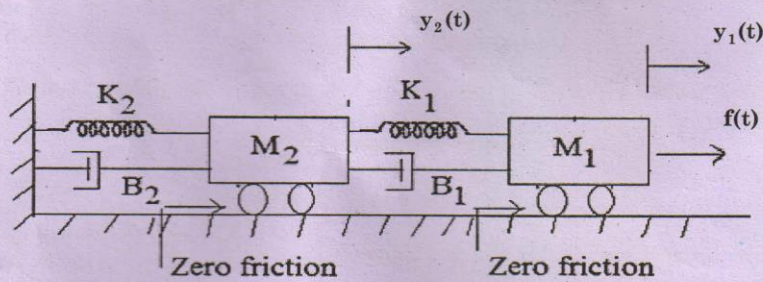

Fig. Q 11(b)(i)
- (b) (i) For the mechanical system shown in Fig. Q 11(b)(i).
- (1) Draw the mechanical network diagram and hence write the differential equations describing the behaviour of the system.
- (2) Draw the force-voltage and force-current analogous electrical circuits. (6+4)